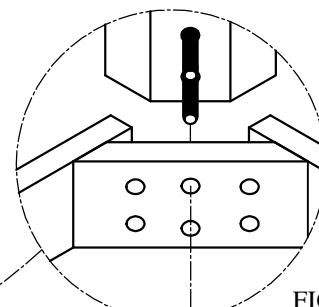

FIG. 3
STEP 3: Attach Front Legs (C) & (D) to the corner blocks of Cushion Seat (B) using provided hardware as shown on FIG.3